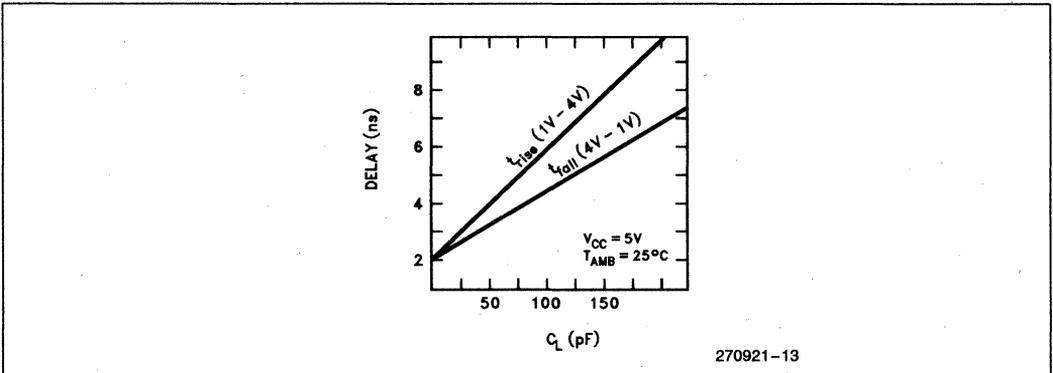

Figure 11. Typical Rise and Fall Variations vs Load Capacitance
- Specified for a 50 pF load, see Figure 11 for rise and fall times outside 50 pF.
- See Figure 11 for rise and fall times.